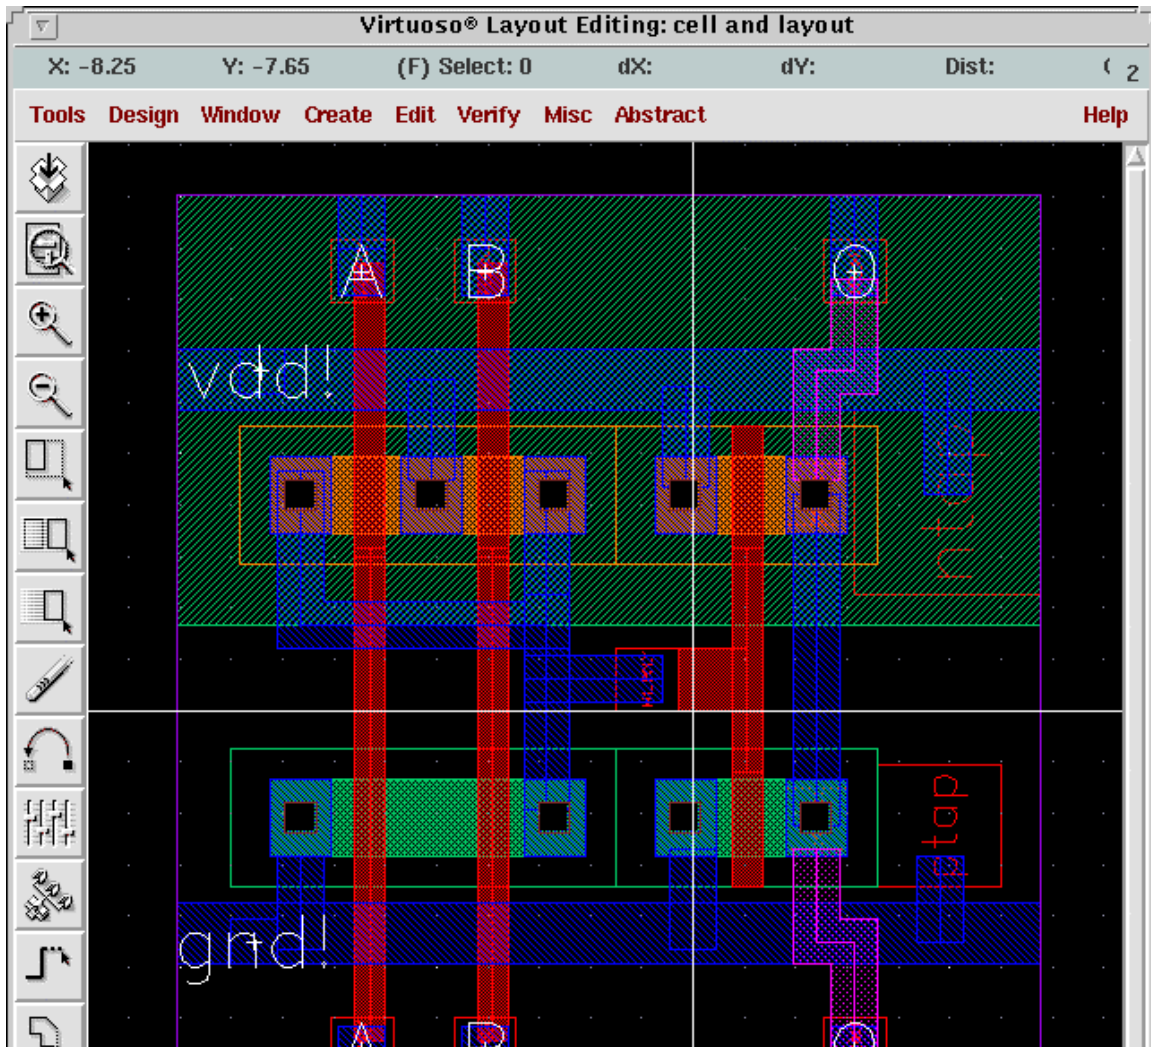
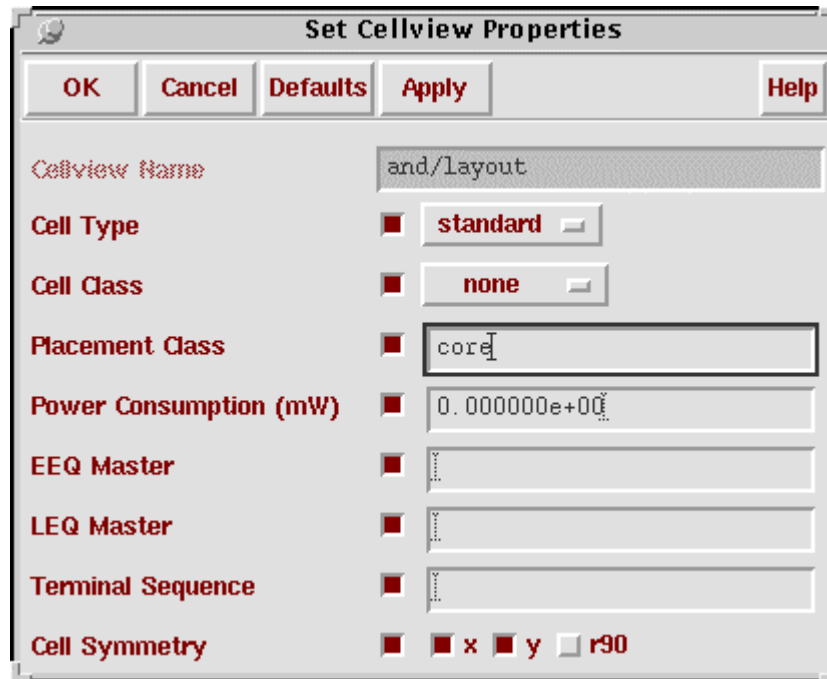

Fig 2: Layout view to generate Abstract
Fig 3: Set Cellview Properties
This brings up Fig 2 as follows.
Select **Abstract** -> **Set Cell Properties** from Fig2. This brings up a “Set Cellview Properties” form (Fig 3). Make sure that:
- Make **Placement Class** *core* as shown in Fig 3.
- In the **Cell Symmetry** enable **x** and **y** as shown in Fig 3.